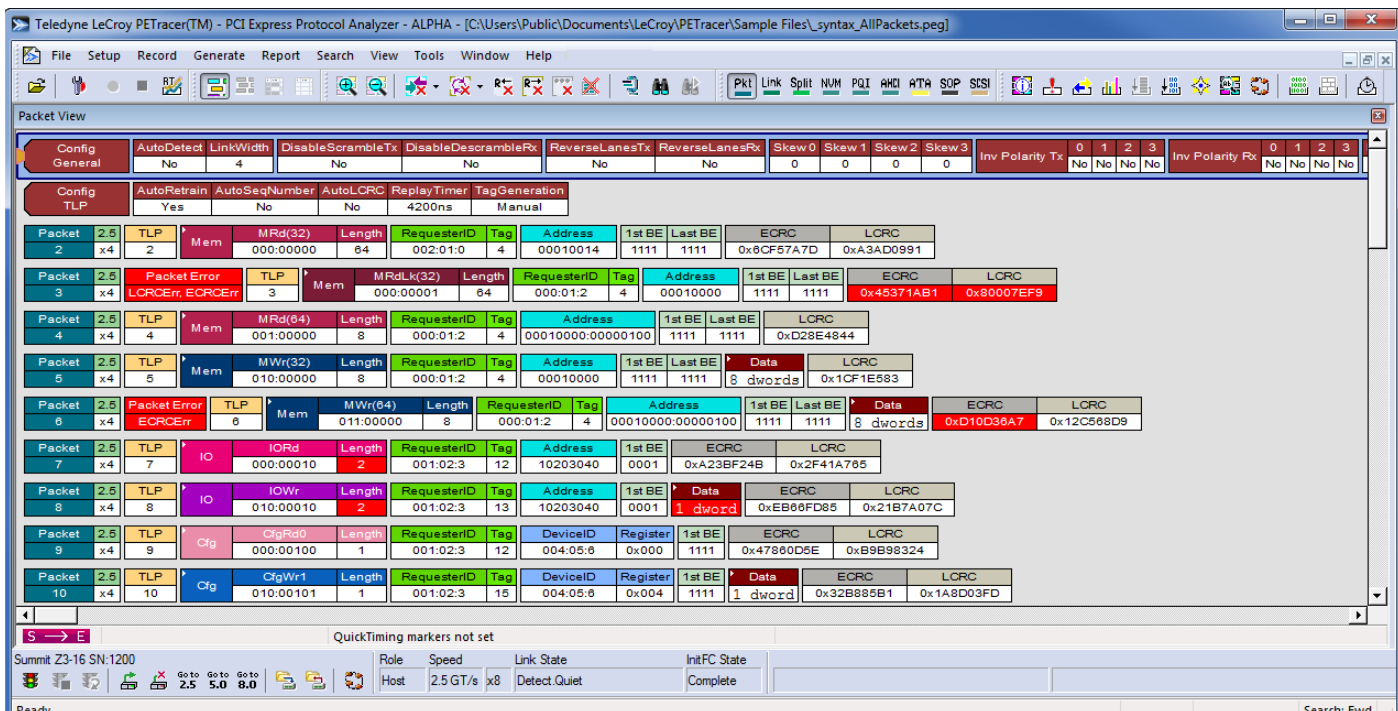

Figure 4.24: Opening an Existing Script File.
2. Open an existing script file or create a new script. For example, open the traffic generation file **Exported.peg** by selecting **File > Open** from the menu. The following packets display in the main window (see Figure 4.24 on page 66).